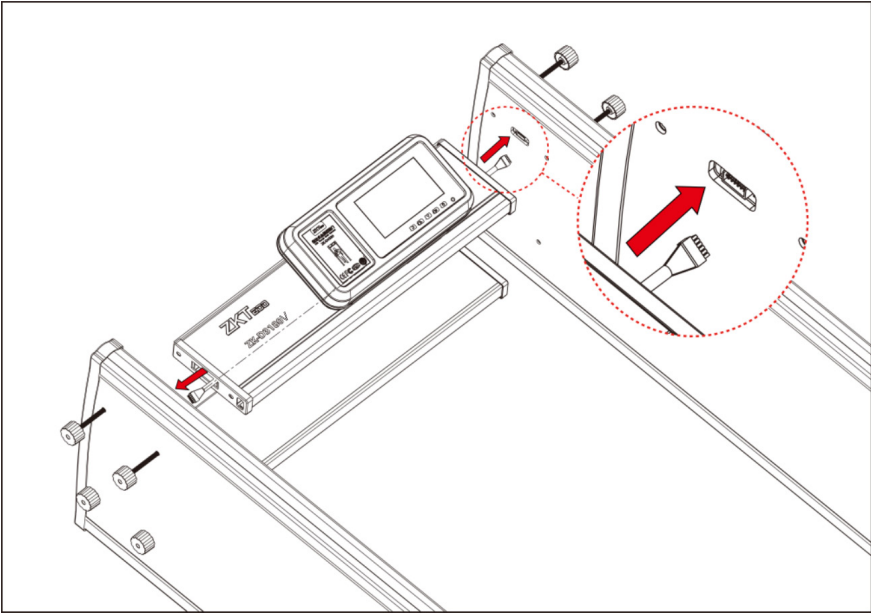

Figure 3-7
**Step 7:** Insert the left and right signal wire plugs, as shown in the figure 3-7 below (pay attention to distinguish the left and right signal wires).